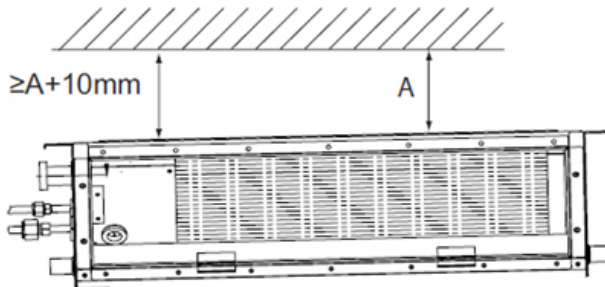

fig. 15
- It is advisable to have a trap (1) on the condensate drain pipe, to prevent odours, see Fig.15.